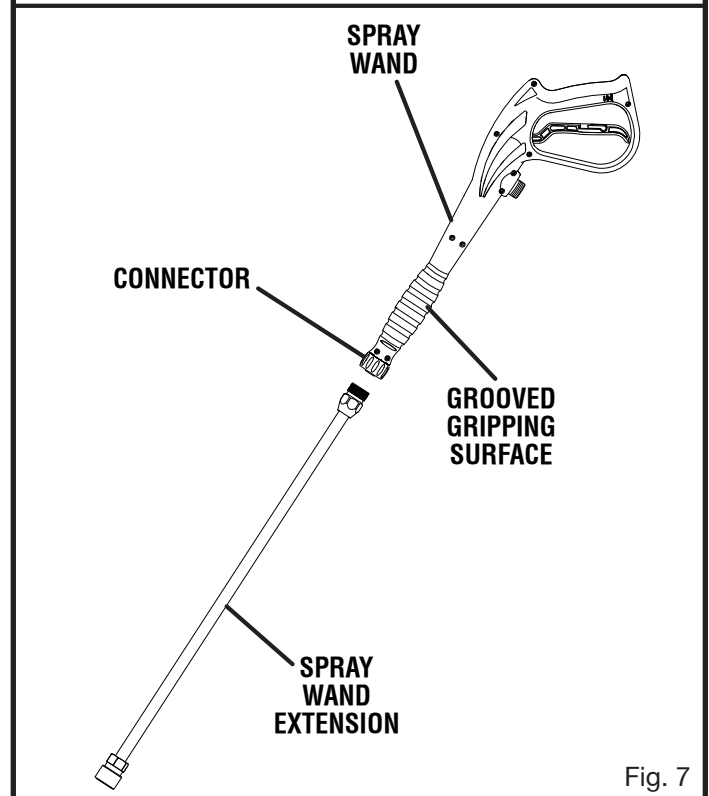

Fig. 7
- Push the open end of the clear injection hose securely over the fitting as shown in figure 7.
See Figure 7.